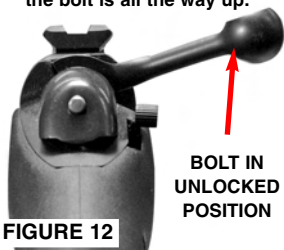

FIGURE 12
- Lift the bolt handle to unlock the mechanism, draw the bolt fully rearward until it stops (Figures 12 & 13).